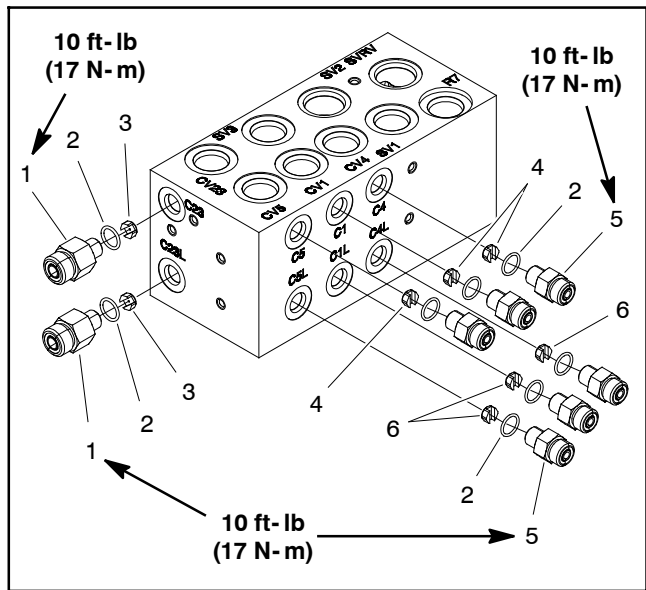

Figure 78
8. Remove two (2) flange head screws that secure manifold to machine frame.
IMPORTANT: A flow control orifice is placed beneath several hydraulic fittings on the lift control manifold (Fig. 78). The lift manifold uses three (3) different orifice sizes. If fittings are removed from manifold and an orifice is in the manifold port, make sure to remove orifice and label its position for assembly purposes.
IMPORTANT: When installing orifice in manifold (Fig. 78), make sure that orifice is flat in the base of the fitting cavity. Manifold damage is possible if the orifice is cocked in the cavity.